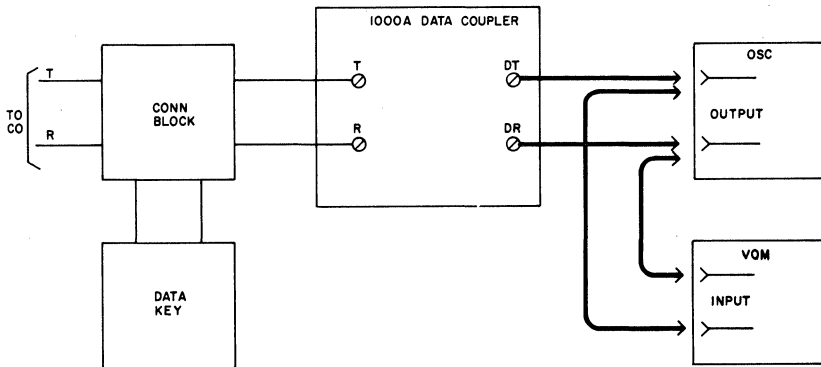

Fig. 10—Test Equipment for Impedance-Matching Test
- (1) Set the oscillator for a 1000-Hz frequency and a 600-ohm output impedance.
- (2) Select the proper scale on the VOM to measure -5 dBm.
- (3) Connect the oscillator output to the VOM input with the 600-ohm resistor bridged across the VOM input.
- (4) Adjust the oscillator output level to obtain a -5 dBm indication on the VOM. Remove the 600-ohm resistor and connect the VOM and oscillator as shown in Fig. 10.